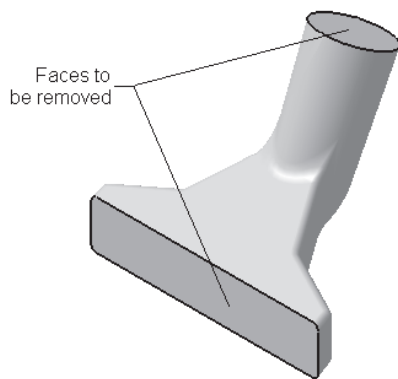

**Figure 5-83** Edges not to be selected
4. Select all edges of the model, except the edges that are shown in Figure 5-83.